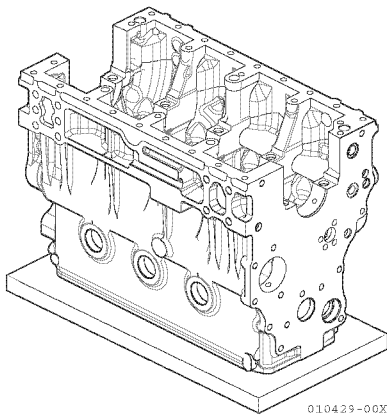

Figure 5-127
2. Place a wood block on the floor and place the cylinder block upside down with the cylinder head mounting surface facing down (Figure 5-127).